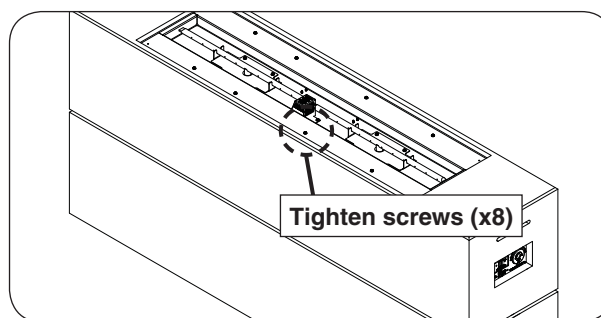

Fig. 20-3 Install burner
2. Use a $\frac{5}{16}$ " nut driver to fasten the burner to the base (see Fig. 20-3).